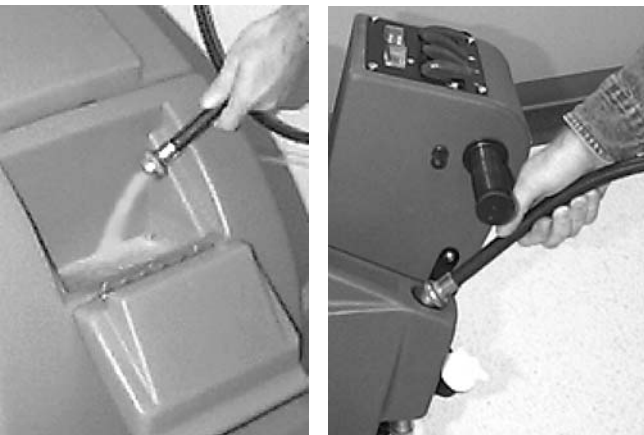

FIG. 4
- Open solution fill door at front of machine and fill solution tank with 64 L (17 gal) of clean water, 60°C (140°F) maximum temperature. Or you can use the rear fill port to fill solution tank. Twist off plug and insert hose to fill. The clear tube below the fill port has 19 L (5 gal) increment markers to indicate amount of water in tank (Figure 4).